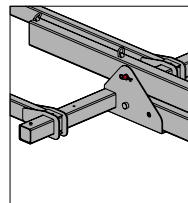

Fig. 5.2 (schematic representation)
- Remove the cotter pins and remove the bolt securing the middle and upper sections (Fig. 5.2).